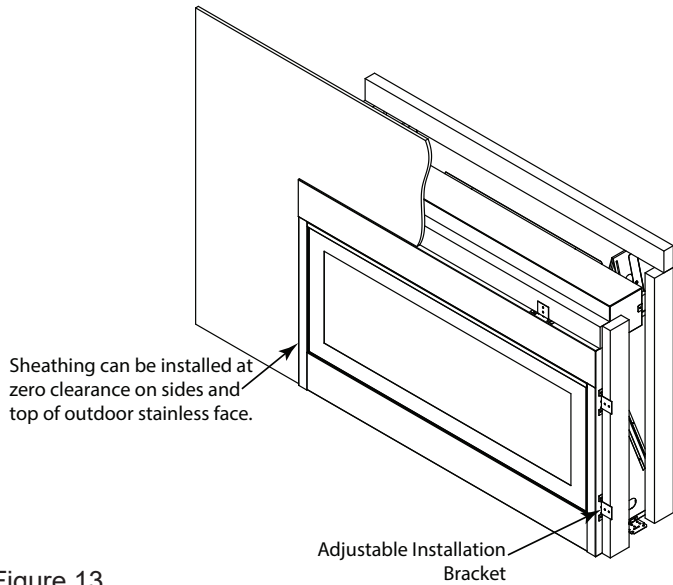

Figure 13
- Seal the seams around the facing material with caulk with a minimum of 300°F continuous exposure rating to weather-seal the facing kit. See Figure 13 and 14.